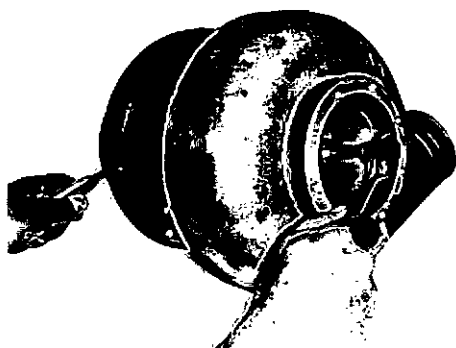

Fig. 3-1, (VTST26). Removing rotor nut from rotor shaft
3. Remove the locknut from the compressor end of the rotor shaft, Fig. 3-1. Discard the locknut.